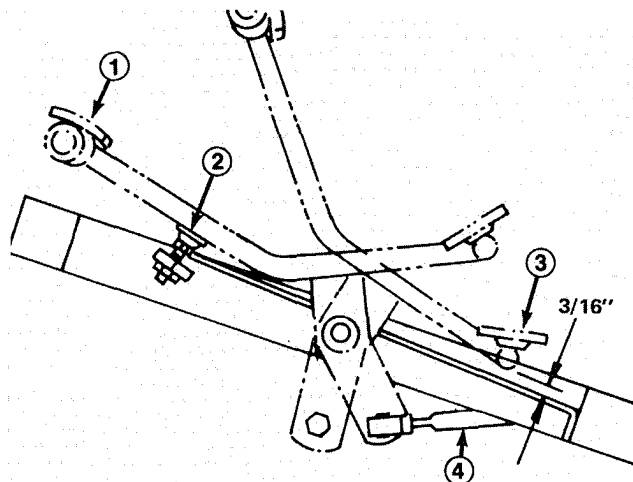

Figure 46
ADJUSTING TRACTION PEDAL (Fig. 46)
2. Check distance between bottom of pedal and footrest as shown in Fig. 46. Distance should be approximately 3/16". If distance is greater or less than 3/16" dimension, an adjustment to the traction control rod is required.